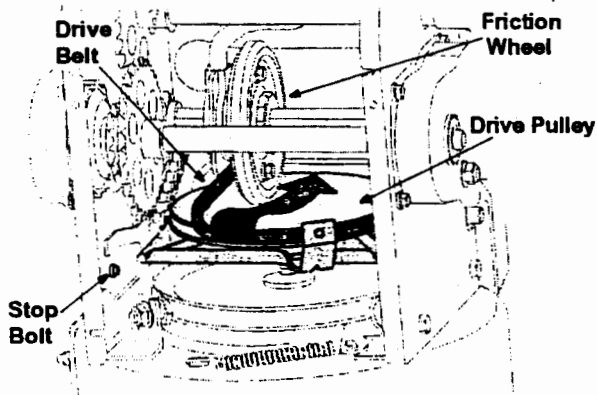

Figure 21
6. Back out the stop bolt to create sufficient gap between the friction wheel disc and the drive pulley. Pull the drive belt from around the drive pulley and clear it off the friction wheel disc. See Figure 21.
- With the traction control lever engaged, check if the friction wheel solidly contacts the drive plate. See Figure 21. If not, adjust as follows: